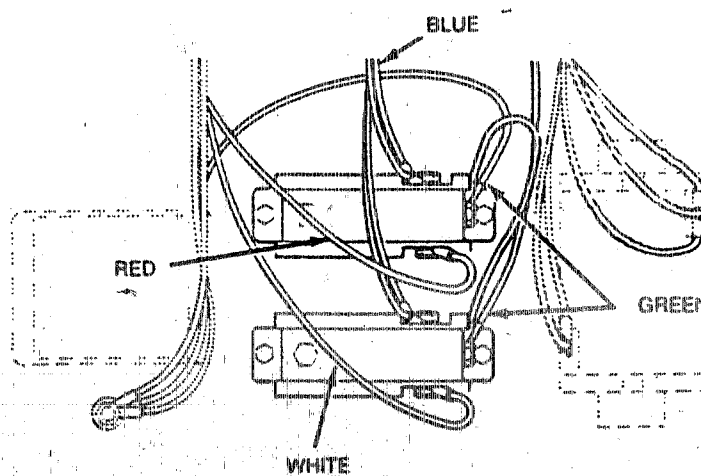

FIGURE 3. AFTER
6. Rotate each receptacle 180 degrees and connect the white, red, and blue wires in their original physical positions (Figure 3). With the receptacle rotated 180 degrees, the wires are now connected in opposite electrical polarity.